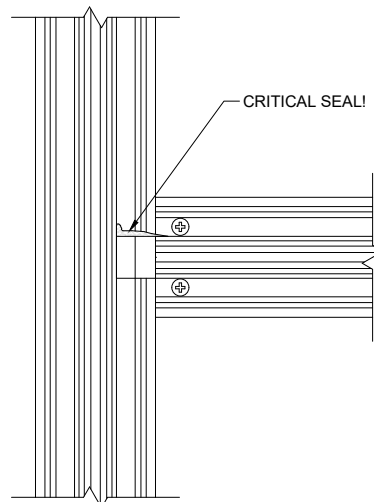

Fig.33.2
- C. Seal over the top of the PTB103 onto the horizontal tongue, damming the end of the horizontals. THIS IS A CRITICAL SEAL. See Fig. 33.2.